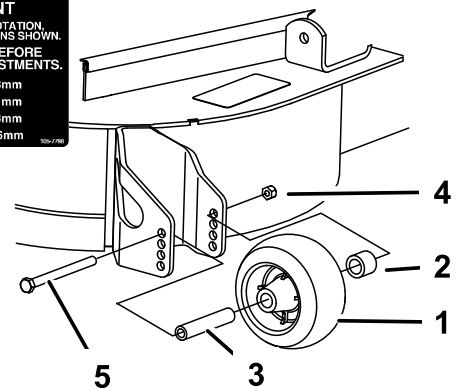

Figure 30
3. Adjust the anti-scalp rollers as shown in Figure 28, Figure 29, and Figure 30.